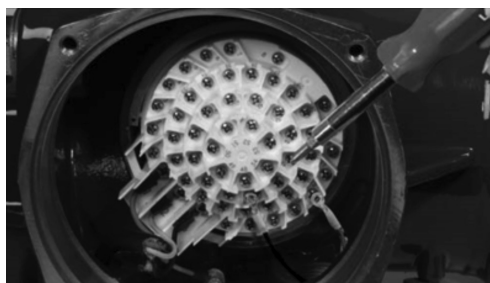
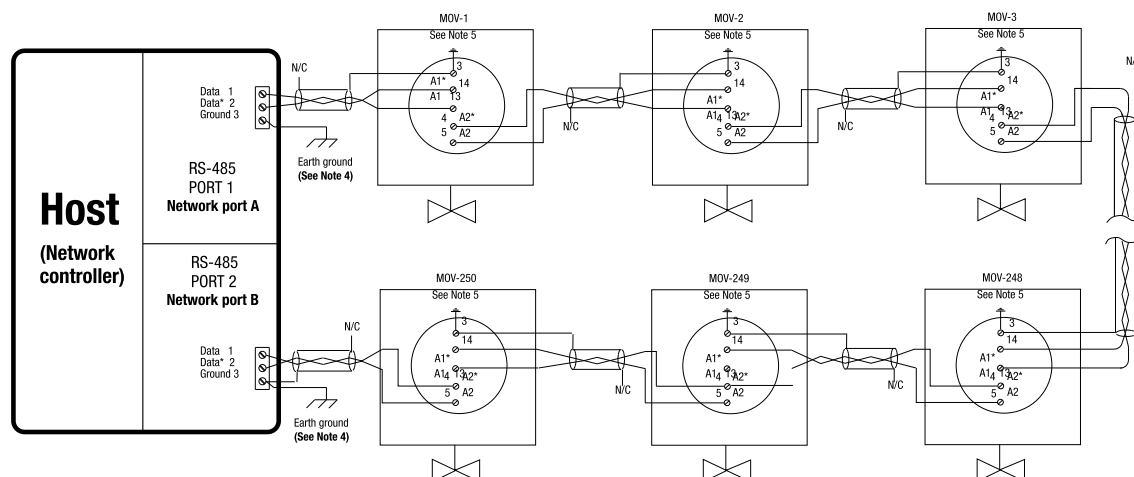

Figure 3.8 - Connecting network cable to terminal block
Figure 3.9 - Redundant bi-directional loop topology
6. Connect the network cables to the terminal block as shown in **Figure 3.8**. **Table 3.3** defines each network cable termination. Refer to **Figures 3.9 and 3.10** for topology-specific wiring connections.
The redundant bi-directional loop topology is wired as follows (see **Figure 3.9**):